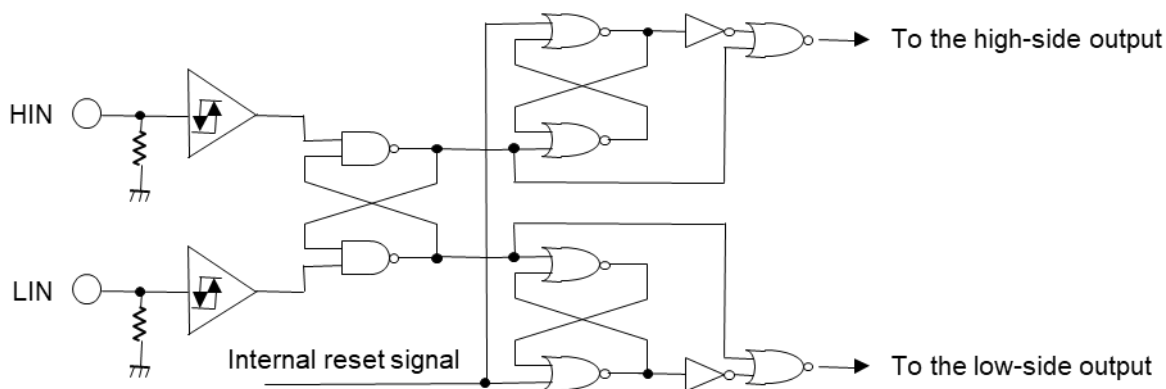

Fig.13 Interlock circuit (Output-maintaining type)
② Interlock for maintaining the high/low-side outputs in response to the input of simultaneous turn-on signals.
When HIN = LIN = “high” (ON), the logic circuit shown in Fig.13 keeps the high-side and low-side outputs in the same state as before the input of simultaneous turn-on signals thus preventing arm short of power semiconductors (IGBT/MOSFET).